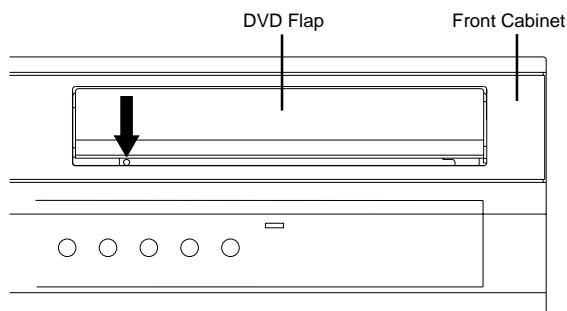

Fig. 1
1. Insert a fine rod (wire etc.) into the hole of the Front Cabinet as shown by the arrow. (Refer to Fig. 1)